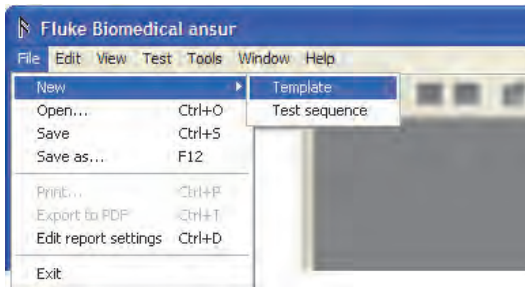

Figure 3-48. Creating a New Template
1. Click **File | New | Template** as shown in Figure 3-48 or click the **New Template** icon (📄) on the main toolbar.